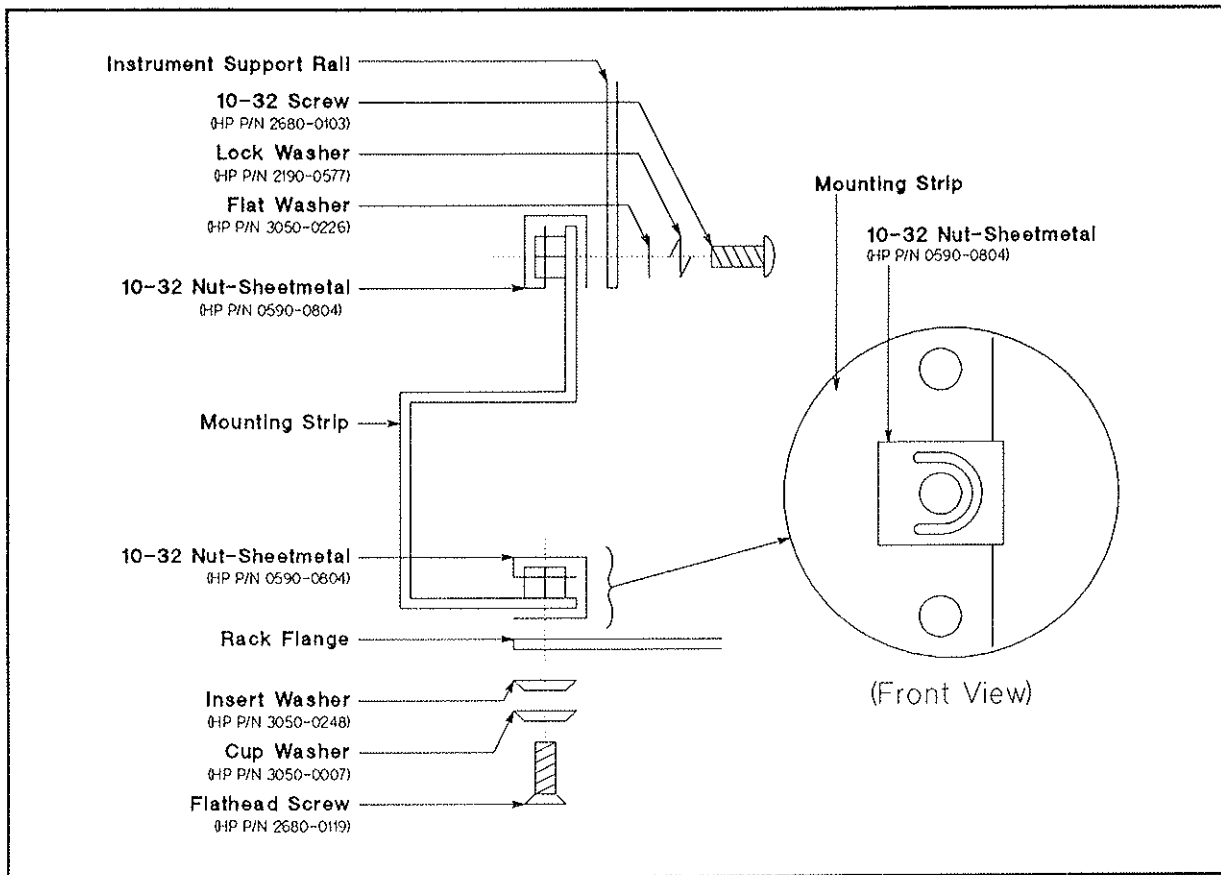

Figure A-5. Section View of Top Left of Cabinet
To install an instrument in the cabinet, refer to Figure A-5 and proceed as follows:
2. Attach two instrument support rails and secure the rails with 10-32 screws as shown in Figure A-5.